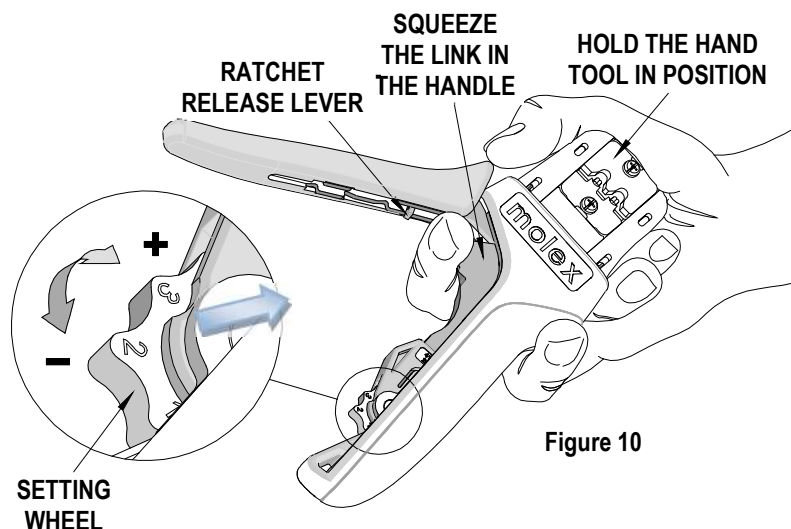

Figure 10
## How to Adjust Tool Preload (See Figure 10)
1. Hold the hand tool in the palm of your hand as shown in Figure 10. Using your index finger, squeeze the link toward the top of the hand tool frame. This will release the preload adjustment wheel.
2. Rotate the setting wheel counterclockwise (CCW) to increase handle force. The numbers will display higher. To decrease handle force, rotate the setting wheel clockwise (CW).